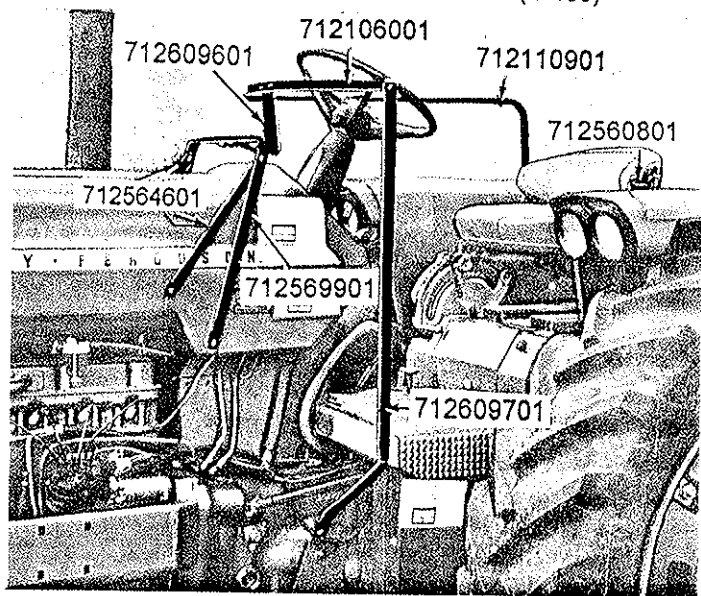

Figure 2
5. Slide door post into wide hem on left side. Bolt top to yoke using 1/4" x 1" bolt and nut. Bolt bottom to tractor with bolt in tractor. See Figure 2.